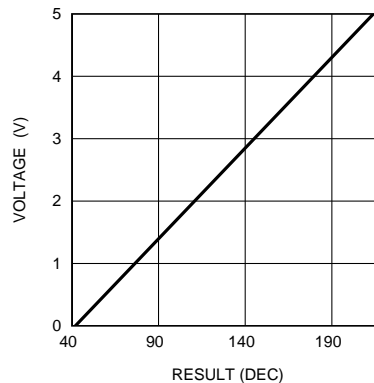

Figure 25. LED Test Results vs Measured Voltage
- This is used to store the LED test result. Read-only register. The LED test ADC's least significant bit corresponds to 30 mV. The measured voltage V (typical) is calculated as follows: $V = (\text{RESULT}(\text{DEC}) \times 0.03 - 1.478 \text{ V})$. For example, if the result is 10100110 = 166(DEC), the measured voltage is 3.5 V (typical). See Figure 25.